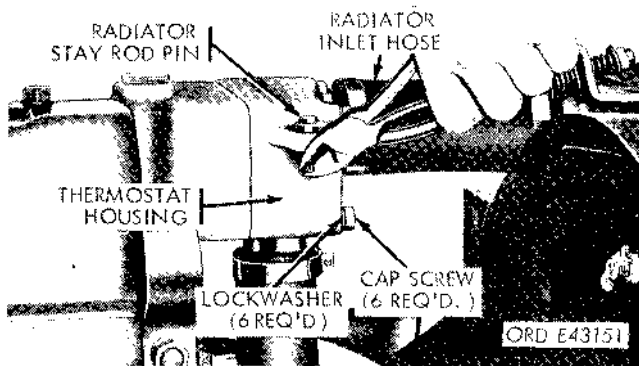

Figure 2-134. Removing radiator stay rod from thermostat housing—gasoline models.
- (1) Drain the cooling system. Refer to TM 9-2320-211-10.
- (2) Loosen the rear clamp on the radiator inlet hose (fig. 2-134).
- (3) Loosen the upper clamp on the bypass hose (fig. 2-134).
- (4) Remove the cotter pin and radiator stay rod pin (fig. 2-134) securing the stay rod to the thermostat housing, and remove the stay rod.
(4) Position the rear end of the radiator stay rod at the bracket on the left side of the thermostat housing (fig. 2-134), and install the radiator-stay-rod pin and cotter pin.
(5) Tighten the rear clamp on the radiator inlet hose (fig. 2-134) and the upper clamp on the bypass hose.
(6) Fill the cooling system. Refer to TM 9-2320-211-10.